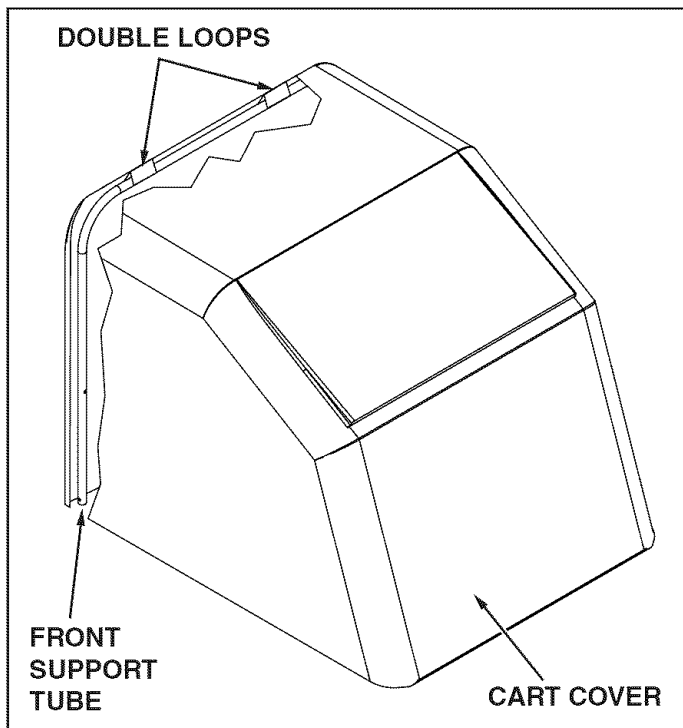

FIGURE 14
1. Slide the front support tube through the double loops located near the front of the cart cover. See figure 14.